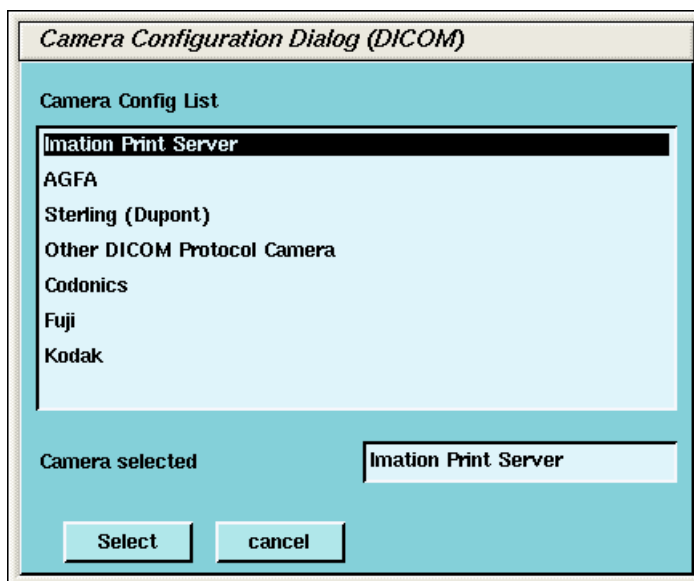

Figure 7-13 Camera Model Dialog (DICOM)
- a.) A list of camera models appears (See Figure 7-13). Select the appropriate model from the list and click SELECT. Clicking SELECT presets all the parameters to that models except the Network parameters.